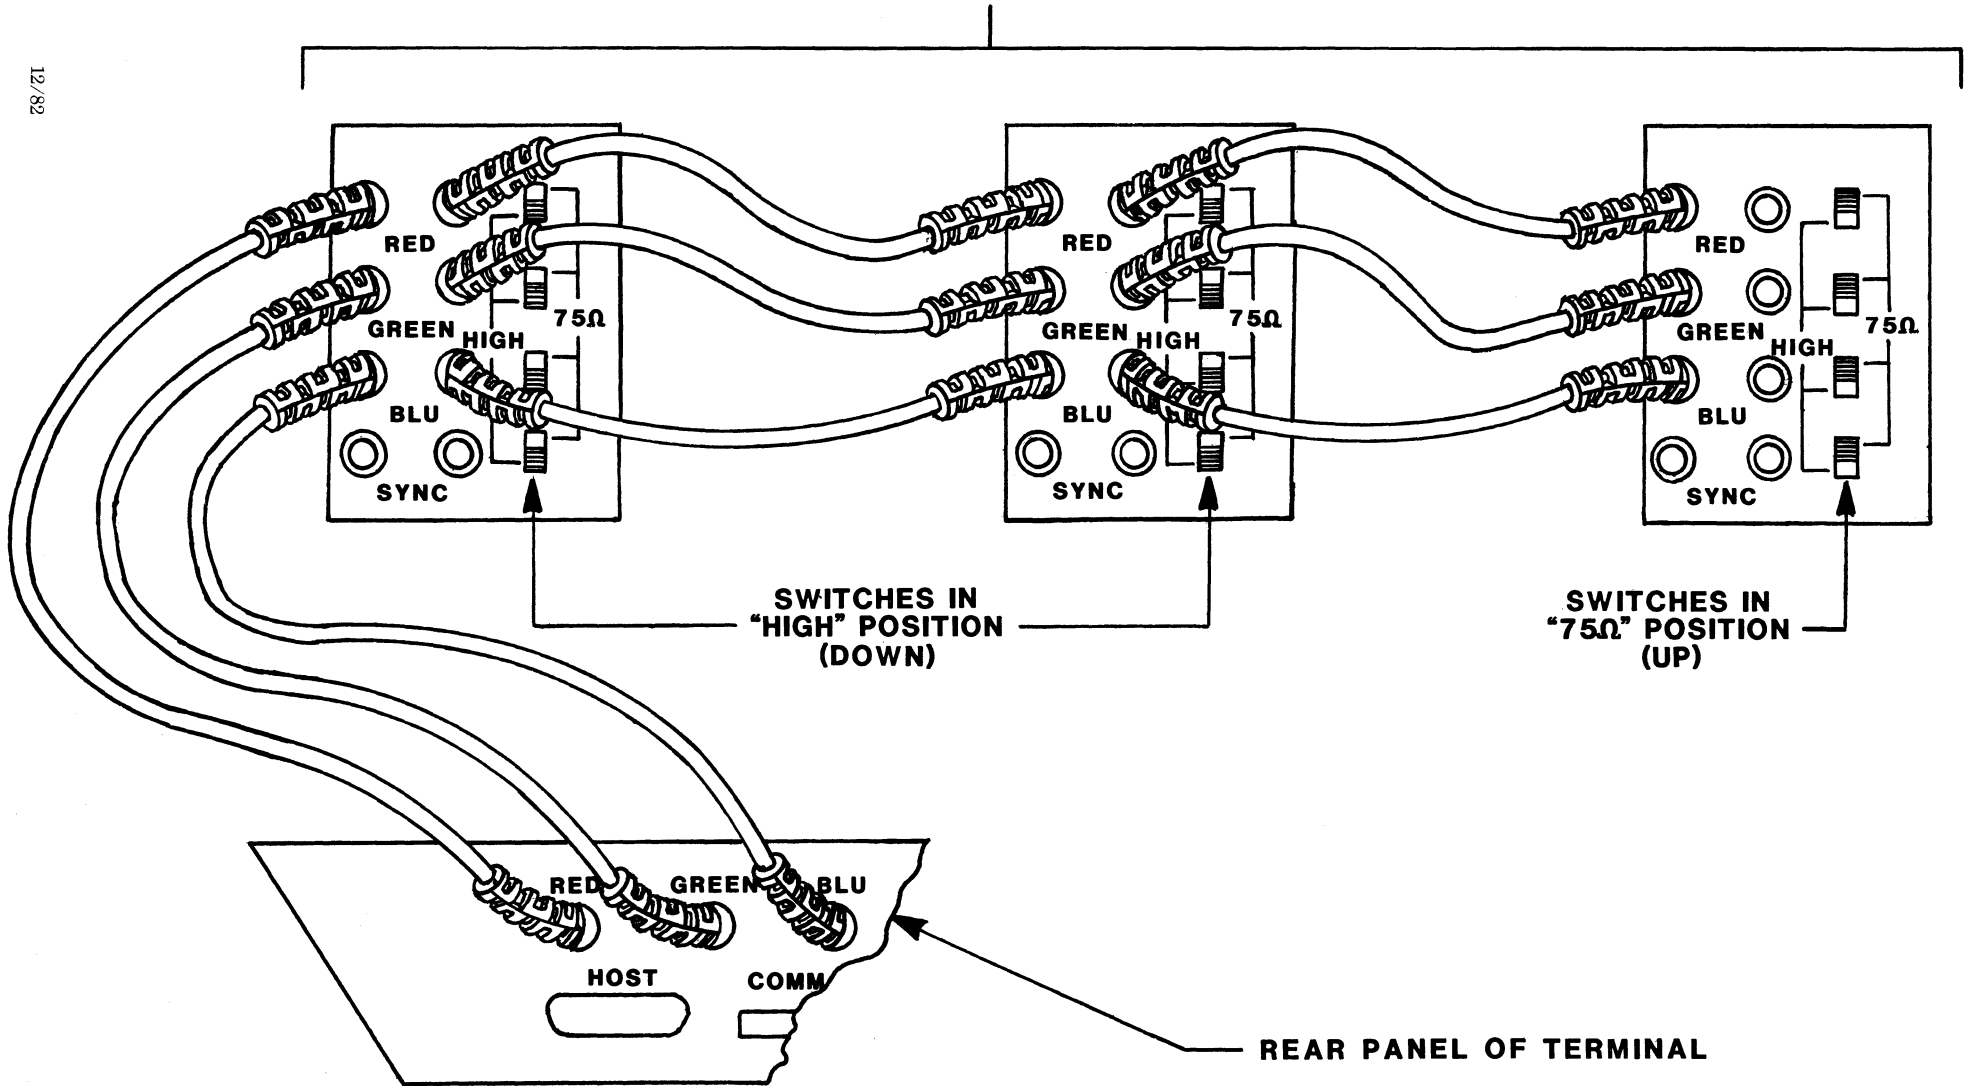

Figure 3.2
Assuming the units are not damaged, *place the monitor atop the terminal* as shown in *Figure 3.1*. Align the rear edge of the monitor with the same of the terminal. *Connect the three coaxial cables* as shown in *Figure 3.1* and *3.1A*. Be sure that one of the cables provided connects RED (R) on the monitor to RED (R) on the terminal; likewise for G and B. If a single monitor is being used, the monitor termination switches should be in the 75 Ohm position. But if several monitors are being cascaded, connections should be made and termination switches set as in *Figure 3.2*.
The AED 512/767 communicates with computers, plotters, digitizer tablets, modems, etc., through the connectors shown in Figure 3.2. Select the proper cable(s) and interconnect the AED 512/767 terminal to your CPU, modem, etc. For serial interfaces, be sure the BAUD RATE is set properly because *experience has shown this to be a common source of installation difficulty.*